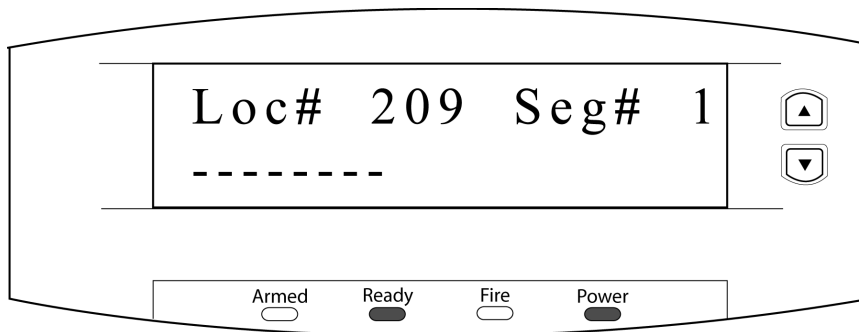

Figure 8: Alarm Panel - Location 209
1. Enter the location for Programming the NX-8E Home Automation Protocol, which is **2 0 9**, followed by the **#** key (or following Location #208, select the  key). A visible number indicates that particular option has been turned on. A dash indicates the option is turned OFF. To toggle between OFF and on, select the corresponding number key on the alarm control keypad. For example, if the number 4 was showing (indicating option is on), select the **4** key to turn it OFF. To toggle it back on, select the **4** key again. For this location, all options must be turned OFF. Once completed, the LCD should look similar to Figure 8).